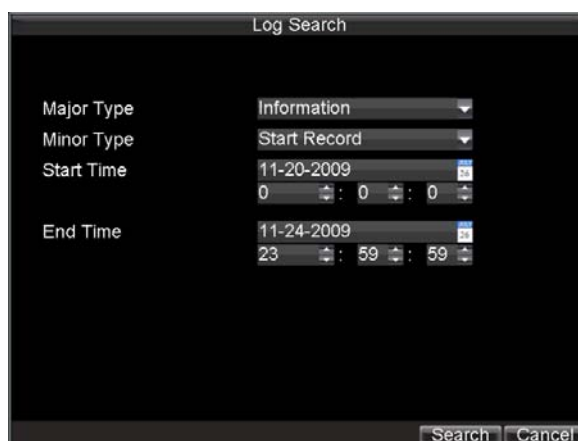

Figure9. Log Search Menu
1. Click Menu > Maintenance > Log Search to enter the Log Search dialog box, shown in Figure 9.